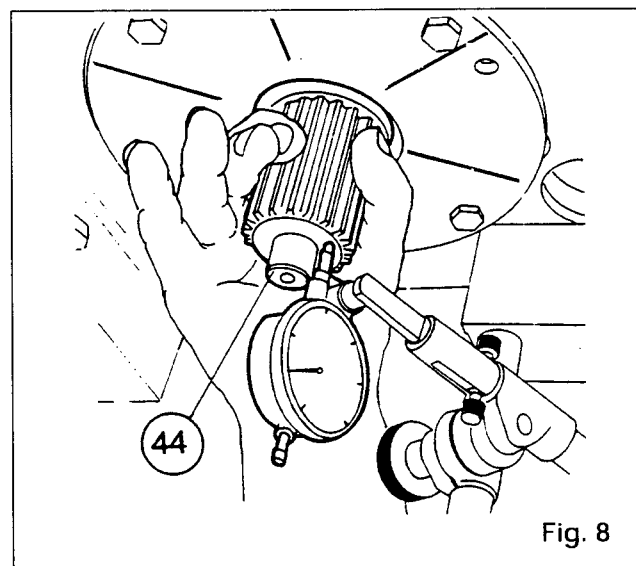

Fig. 8
**Note:** In the case of gearboxes equipped with creeper gears, use the gearbox locking ring (Fig. 8) in place of the locking ring. Tighten the bolts to a torque of 34 to 52 Nm.
**Note : In the case of gearboxes equipped with creeper gears, use the gearbox locking ring (Fig. 8) in place of the locking ring. Tighten the bolts to a torque of 34 to 52 Nm.**